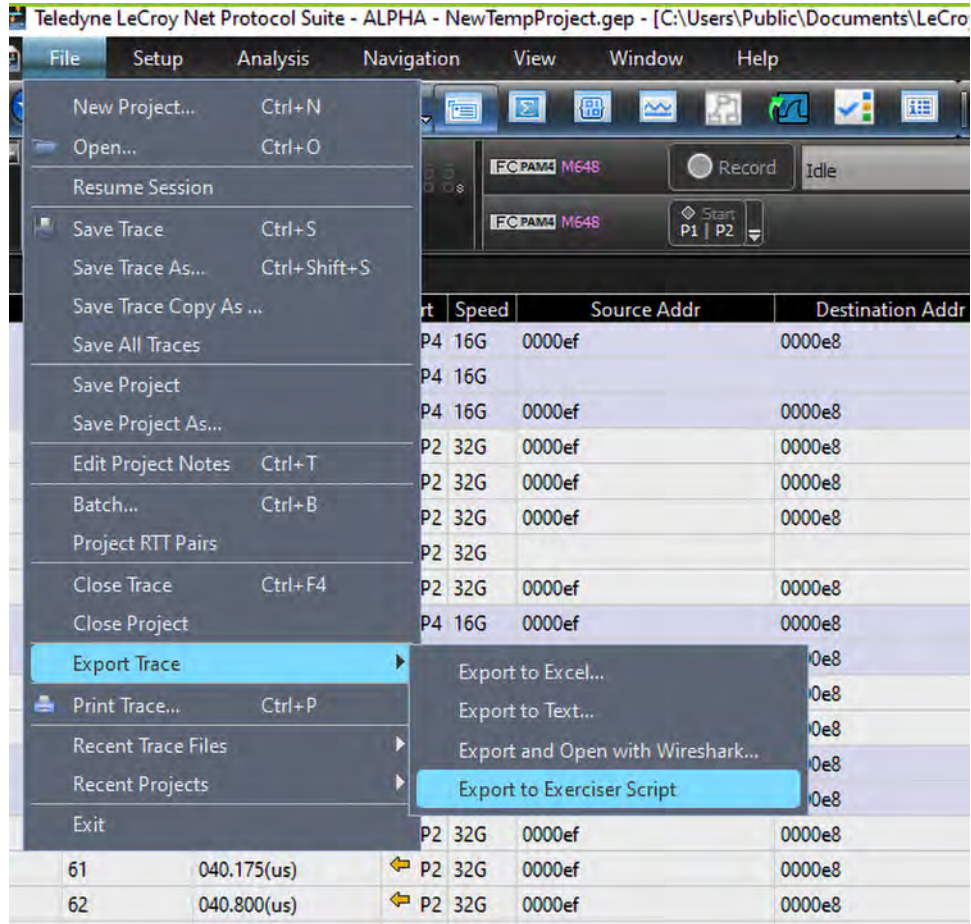

Figure 8.38: Export Trace to Exerciser Script
2. Select **File** → **Export Trace** → **Export to Exerciser script**, as shown in Figure 8.38.